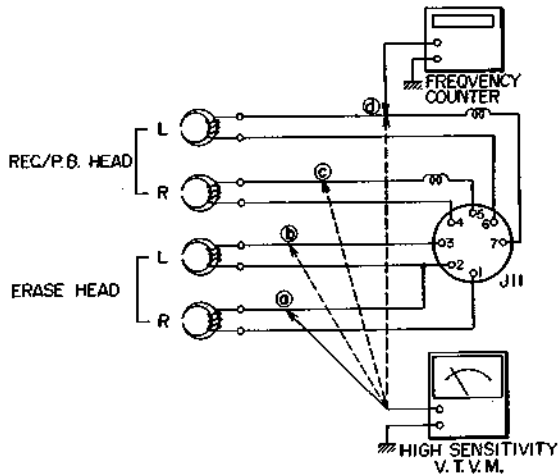

Fig. 19
Connect the various measuring instruments as shown in Fig. 19.
1. RECORDING BIAS FREQUENCY CHECK (See Fig. 19)
- 2) Connect a Frequency Counter to point (d) of the Recording/Playback Head as shown in Fig. 19 and read indication.
Check the voltage at points (c) and (d) shown in Fig. 19.